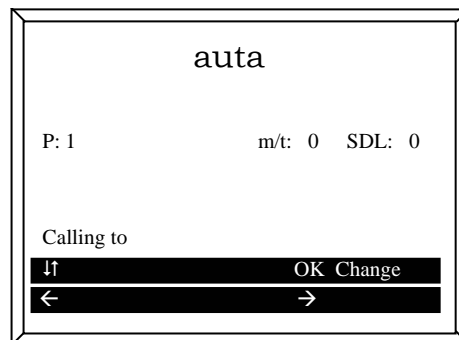

Figure 5. Call from panel with an invalid code (Call to Switchboard).
- On screen the number of the calling panel will be shown and also the identification of Phone/Monitor 0, and of SDL 0 (see figure 5).